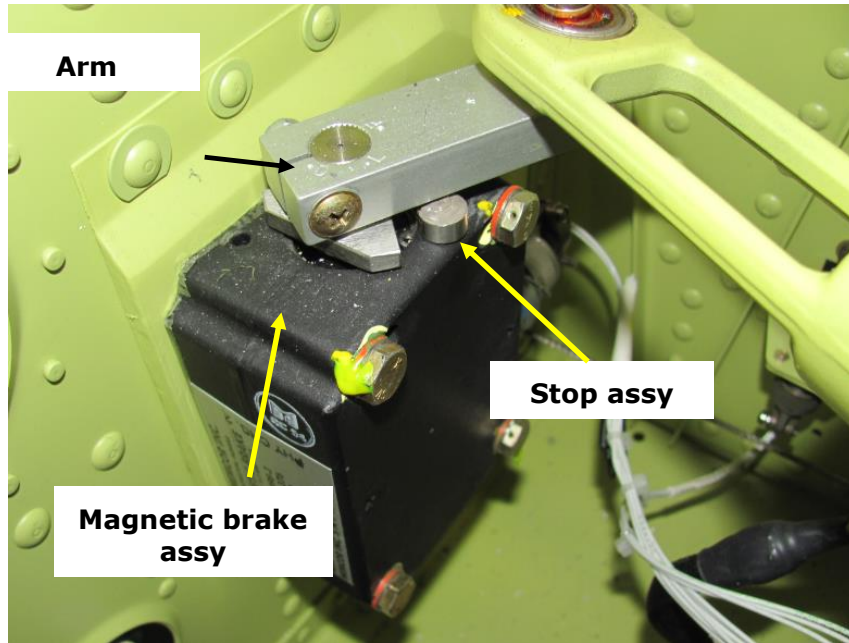
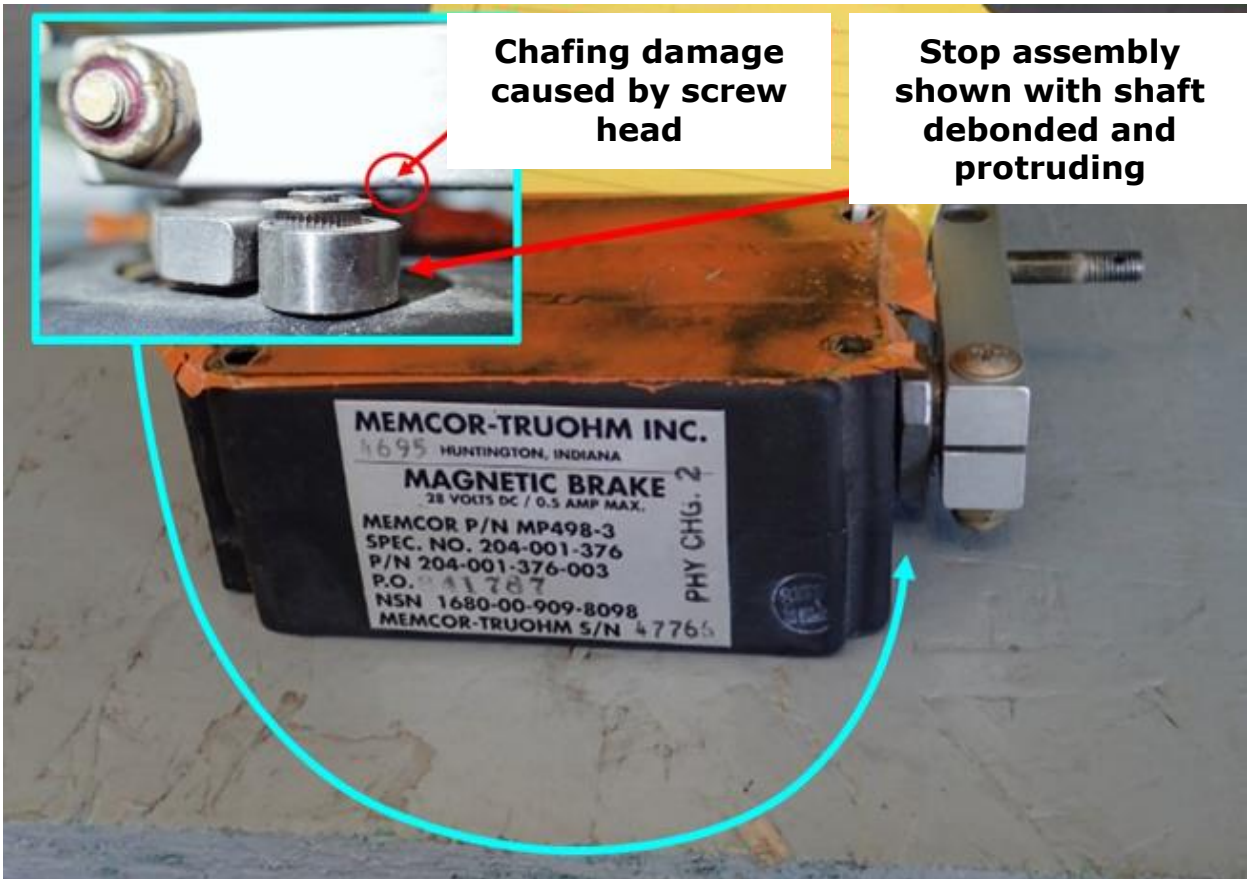

Figure 1. Magnetic brake assembly.
Figure 3. Stop assembly with debonded shaft.
3. Perform a detailed visual inspection of the stop assemblies (Figures 1 and 2). Figures 3 and 4 show a stop assembly found debonded.
(Magnetic brake 204-001-376-003 shown as an example Figures 1 to 4)